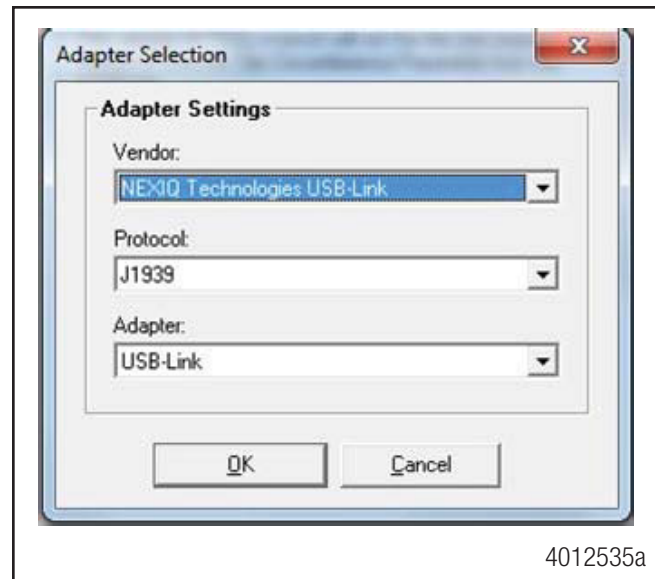

Figure 3
8. From the "Adapter" pull-down list, select the appropriate adapter for your device. Refer to the following example in Figure 3.